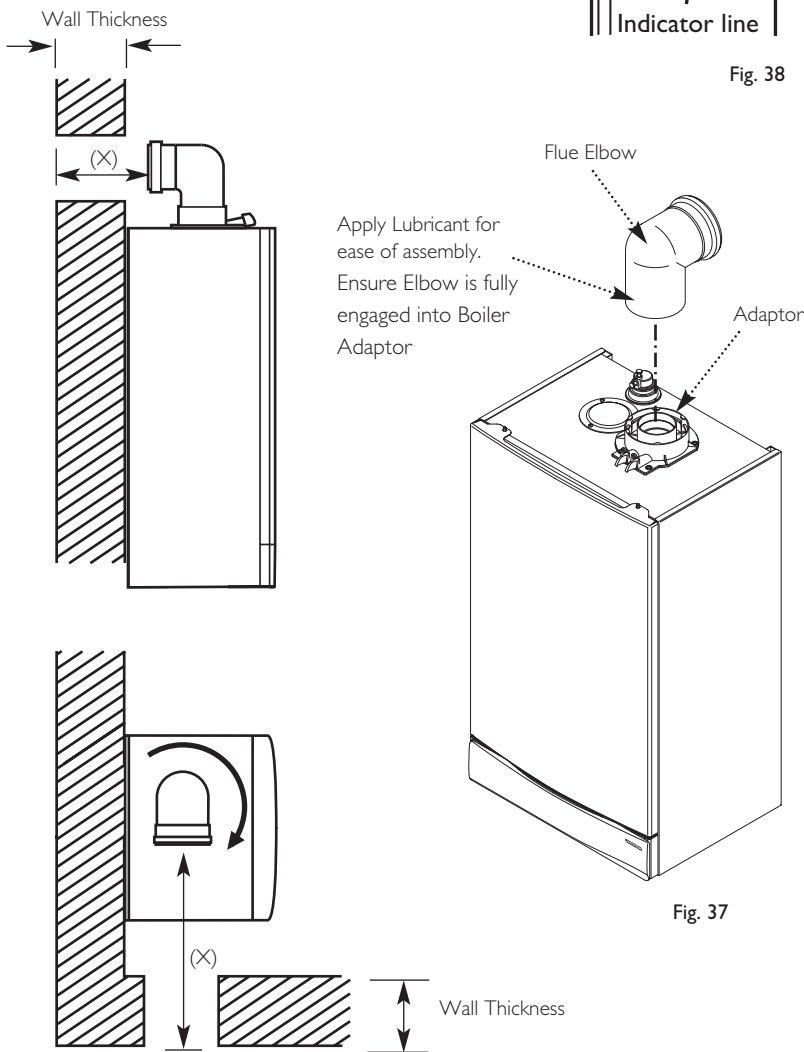

Fig. 39
3. Measure the distance from the outside wall face to the elbow. This dimension will be known as 'X' (Fig. 39).